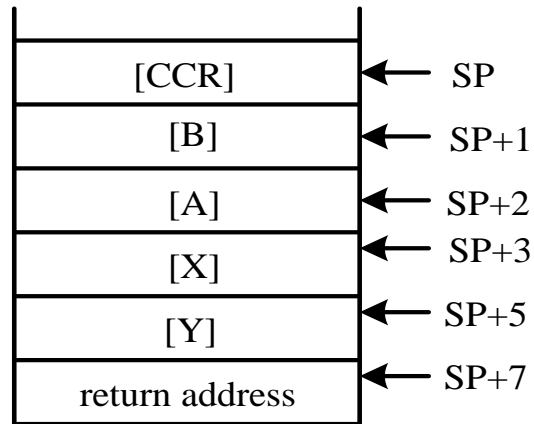

Figure 6.3 Stack order on entry to interrupts
- The order of saving CPU registers is shown in Figure 6.3.